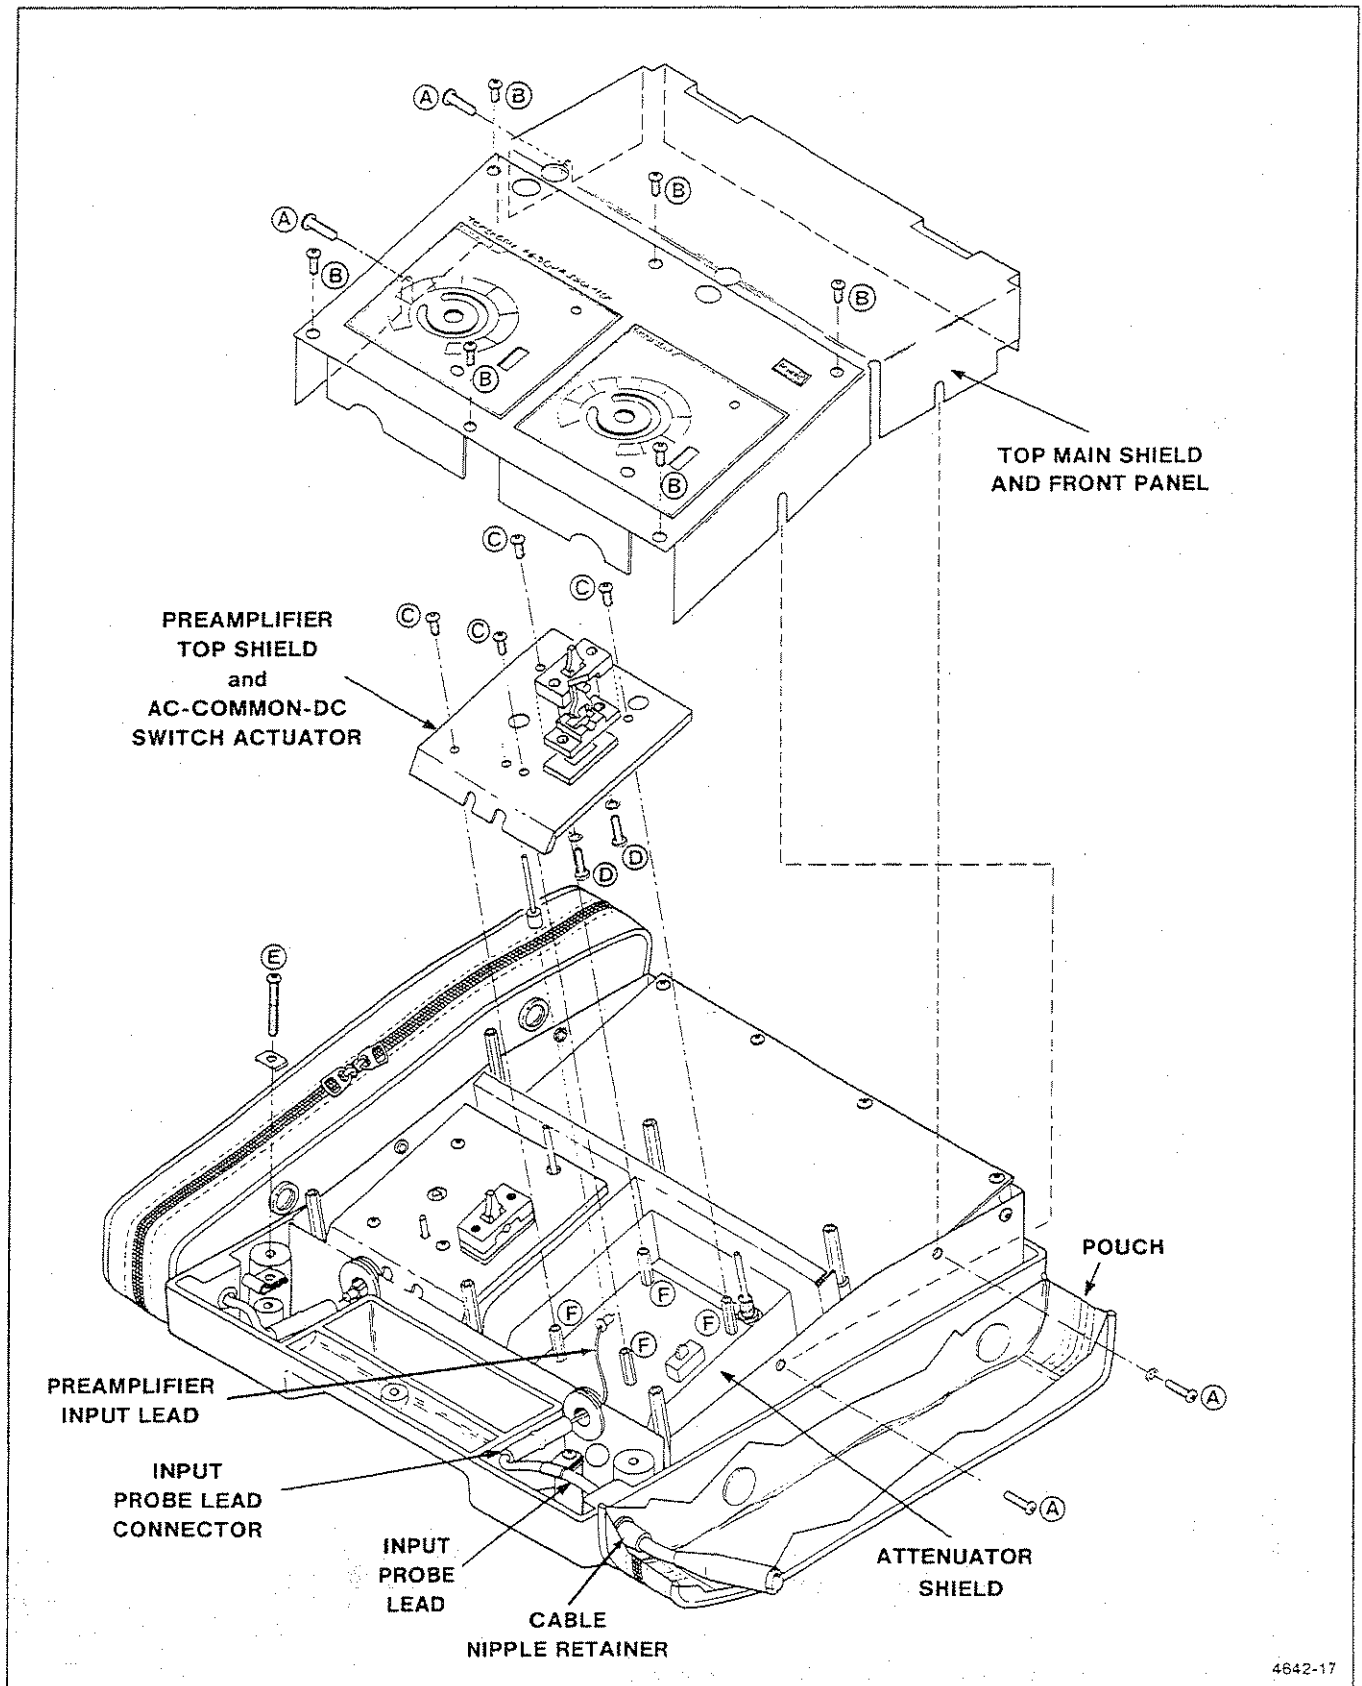

Figure 6-4. Removal of shield and preamplifier assembly.
To remove the Top Main Shield/Front Panel assembly, proceed as follows (refer to Figure 6-4):
1. The Preamplifier Top Shield can be removed by removing the four screws (labeled "C", Figure 6-4) from the top of the shield.
2. The AC-COMMON-DC Switch Actuator Assembly can be removed by removing the two black plastic screws and associated lock washers (Figure 6-4, labeled "D"), and lifting the Actuator Assembly from the cover.
2. Remove the Torx® screw and the cable clamp (Figure 6-4, labeled "E"). Note the position of the cable clamp as reference for reinstallation.
2. Remove the four hexagonal stand-off posts (Figure 6-4, labeled "F"). (During reinstallation, torque the stand-off posts to 4 inch-pounds maximum.)
2. Disconnect the Preamplifier Input Leads from the Input Probe Leads by gently pulling them straight away from each other (refer to Figure 6-4).